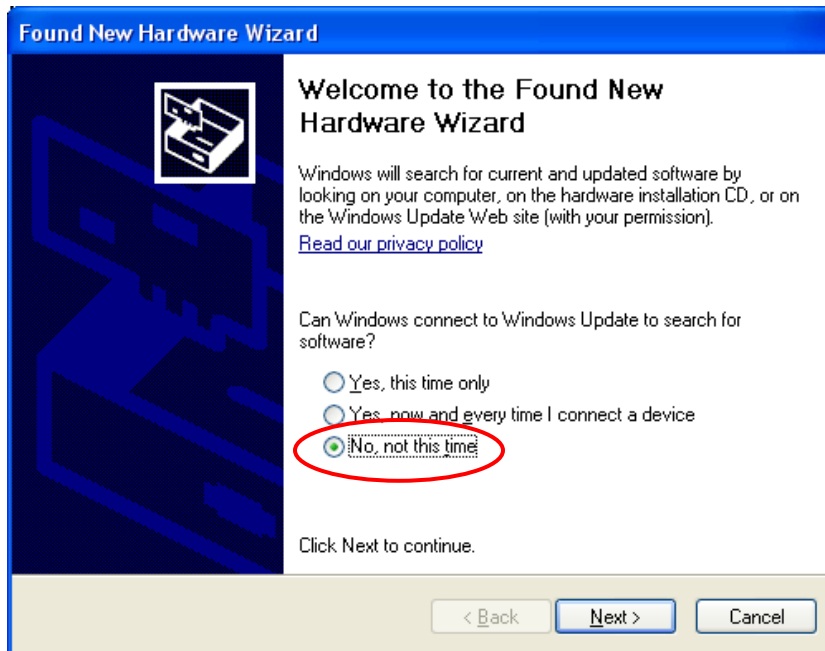

Figure 13
Allow the installation of the device on the system by following the Found New Hardware Wizard (Figures 13 through 16).
4. Select **No, not this time** to not search the Windows Update website. Then select the **Next >** button (Figure 13).